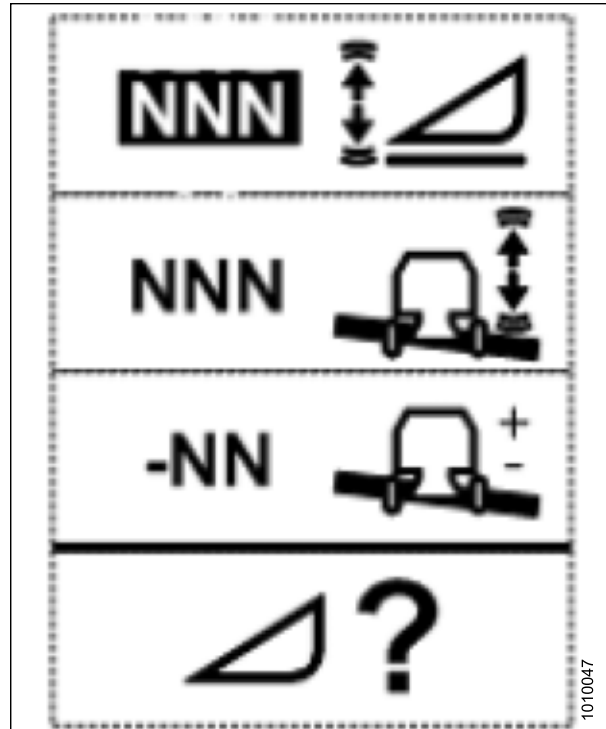

Figure 3.178: Height Sensitivity Change Page
1. Use the HEADER SETTINGS key (M) to display the HEADER SENSITIVITY CHANGE page as shown in Figure 3.178, page 132.
2. Use the UP or DOWN keys (E) or (H) to adjust the highlighted item. The height sensitivity setting range is 0 (least sensitive) to 250 (most sensitive) in increments of 10.